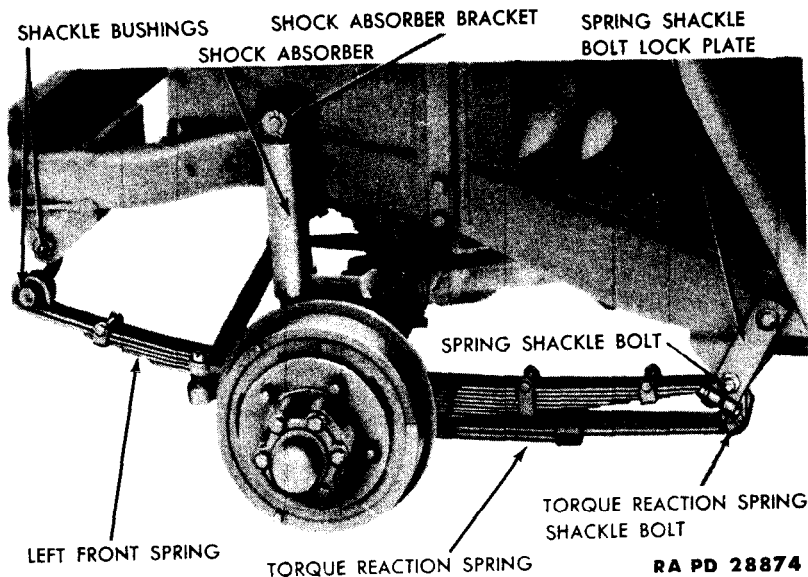

Figure 83 — Left Front Spring With Torque Reaction Spring
(2) **LEFT FRONT SPRING** (fig. 83). Raise the vehicle frame until the weight is off the springs but the wheels are still on the floor. Remove the cap screw that secures the shackle bolt lock plate to the left side of the frame. Remove the nut and bolt from the clamping end of the lock plate and remove the lock plate from the shackle bolt. Remove the cotter pin and flat washer that secure the lower end of the shock absorber to the torque reaction spring. Pull the shock absorber off the reaction spring. Remove the cotter pin and nut from the reaction spring shackle bolt and remove the shackle bolt. Remove the cotter pin and nut from the spring shackle bolt and remove
(2) **LEFT FRONT SPRING** (fig. 83). Place the spring with the bushing end in the spring bracket on the frame. Insert the outer shackle on the shackle bolt. Insert the shackle bolt in the spring. Place the inner shackle on the shackle bolt and install the nut and cotter pin. Place the torque reaction spring between the inner and outer shackles. Insert the shackle bolt through the shackle and spring. Install the nut and cotter pin on the shackle bolt. Raise the forward end of the spring and insert the spring shackle in the spring. Install the spring shackle bushings with the grease fittings facing outward on the spring shackles. Place the spring U-bolts on the axle housing. Raise the torque reaction spring onto the U-bolts. Install the four nuts to the U-bolts. Install the lower end of the shock absorber to the torque reaction spring. Apply specified lubricant to all fittings.